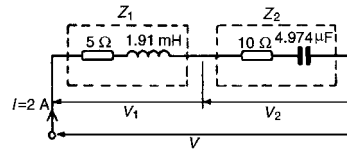

Figure 15.19
- 3 For the circuit shown in Fig. 15.19 determine the voltages V_1 and V_2 if the supply frequency is $1\ \text{kHz}$. Draw the phasor diagram and hence determine the supply voltage V and the circuit phase angle.